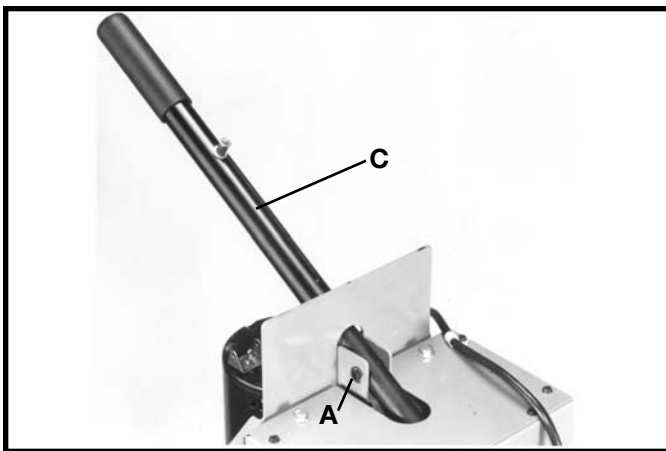

Fig. 23
2. Insert end of handle (C) Fig. 23, into head assembly as shown and fasten handle in place by reassembling connecting pin that was removed in **STEP 1**, through hole in end of handle. Replace retaining ring (A).